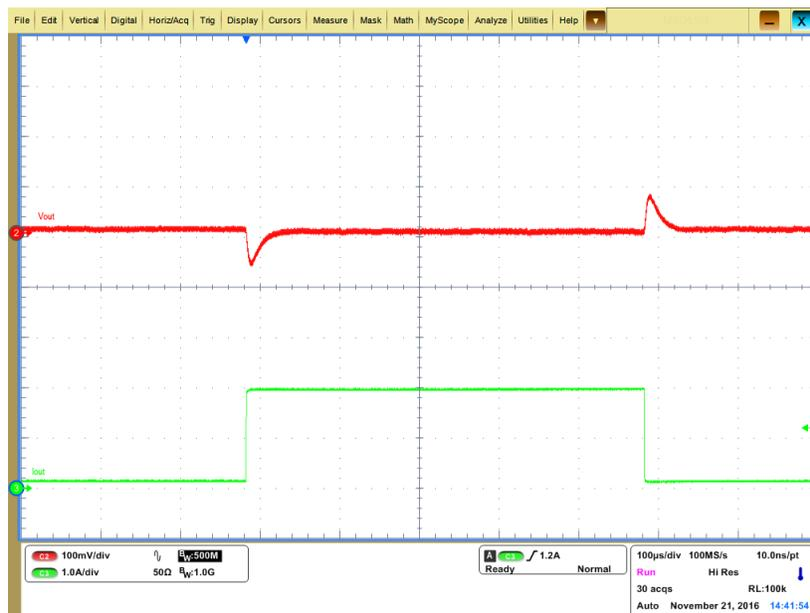

Figure 15. Load Transient Response, 14 V
- Load starts at 10 mA, goes to 2 A, then returns to 10 mA (Figure 15)